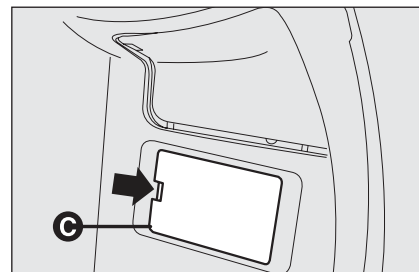

fig. 47
- ☐ open the fuse box lid **C-fig. 47** working in the point shown by the arrow.